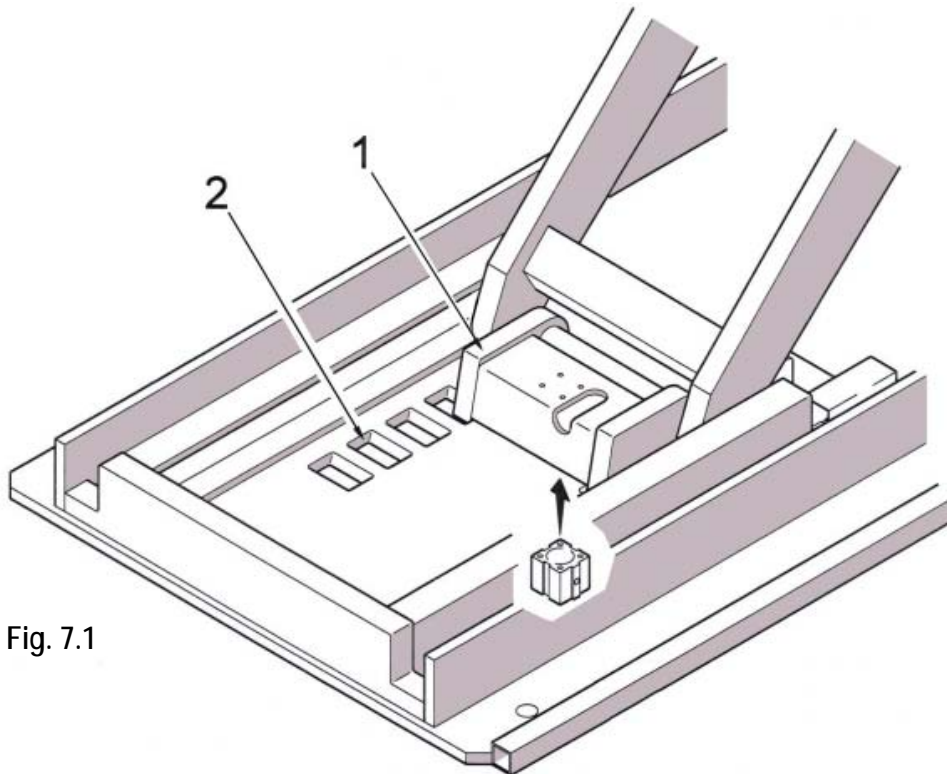

Fig. 7.1
- Visually verify the absence of tools and/or dirt within the notches (2, fig. 7.1) for the catch device (1, fig. 7.1).